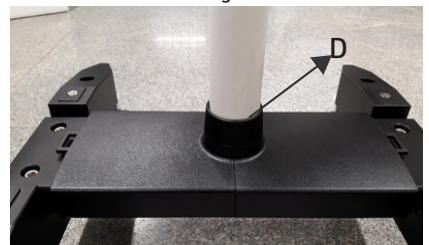

Fig 15
7.2 Make sure that during assembly of the column, ring D) is fixed in place, as shown in Fig. 15